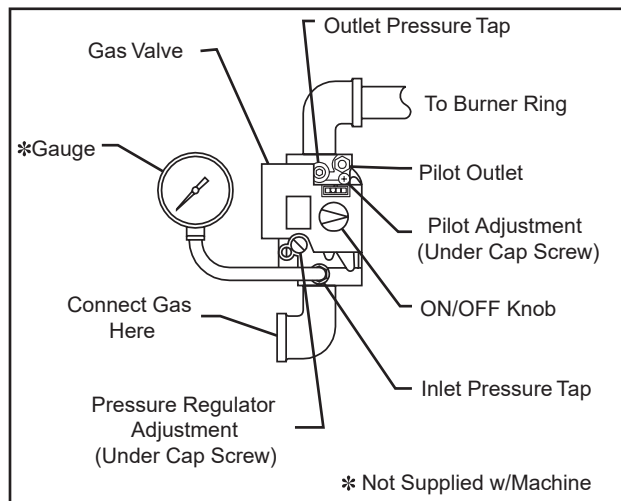

Figure 5 - Gas Valve
2. Turn the gas valve ON/OFF knob to the OFF position. Refer to **Figure 5**.
16. Connect your natural gas supply to the inlet port of the machine gas plumbing. (Refer to **Figure 5**.)
19. Next, install the gas gauge or manometer in the outlet pressure tap port of the gas valve. (Refer to **Figure 5**.) This reading will indicate the gas pressure going to the burner ring.